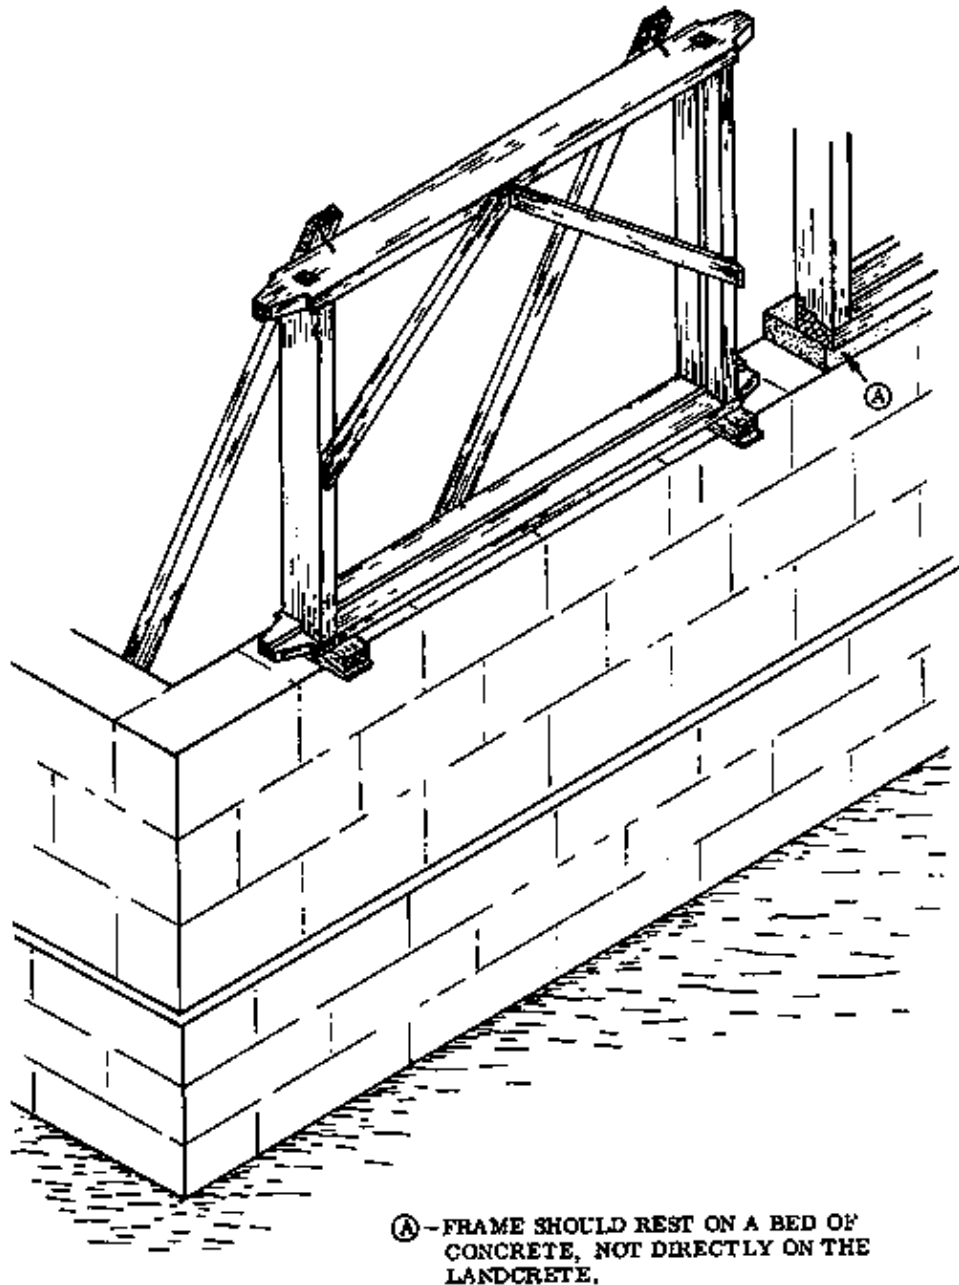

Fig. 1
– **INSTALLING THE FRAMES DURING THE WALL CONSTRUCTION:** When the blockwork has reached window cill level, the frames can be set and aligned in the same way as a door frame. The chief difference is that in the window frame the horizontal members are usually longer than the vertical members, and for that reason more attention is given to levelling the head and cill of a window frame than to levelling the head of the door frame (Fig. 1).